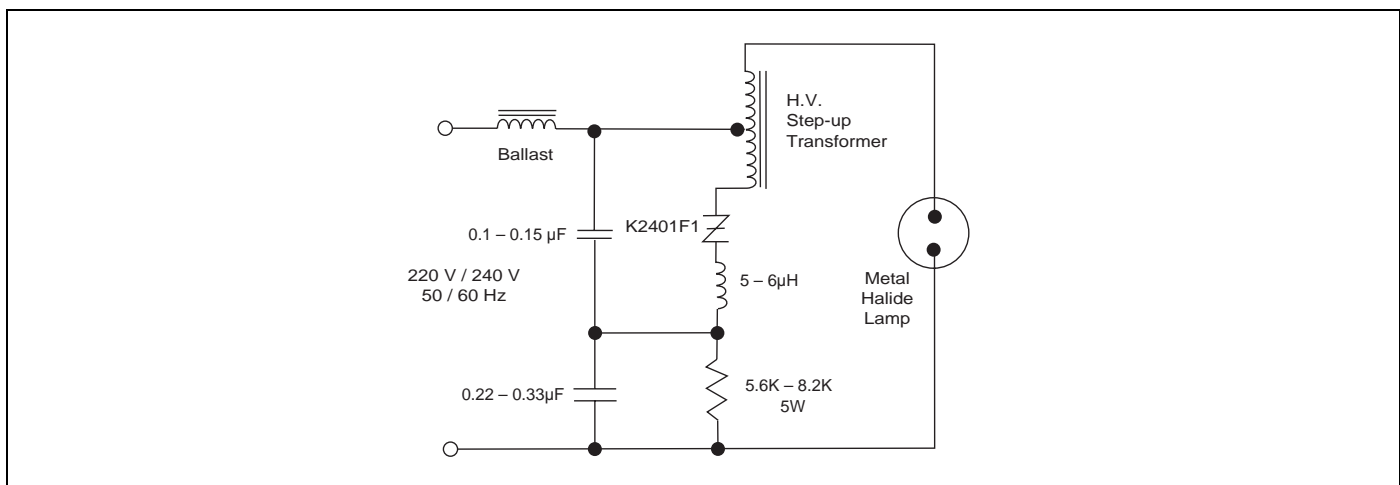

Figure E9.17 Typical Metal Halide Ignitor Circuit
- The K2401F1 sidac is designed to ensure good commutation at higher switching frequencies, as required in ignitor circuits for high intensity discharge (HID) lighting. A typical circuit for a metal halide lamp ignitor is shown in Figure E9.17. With proper component selection this circuit will produce three pulses for ignition of Osram lamp types such as HQI-T70W, HQI-T150W, and HQI-T250W which require a minimum of three pulses at 4 kV magnitude and $>1 \mu s$ duration each at a minimum repetition rate of 3.3 kHz.